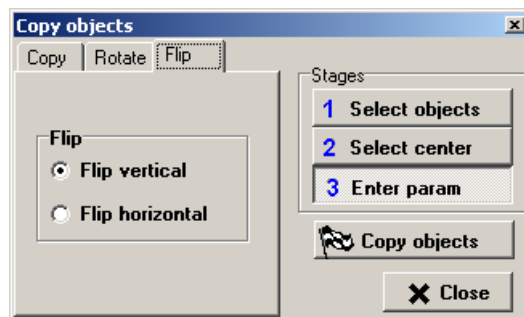

Fig. 43
- **Flip.** This operation represents flip of the selected object with reference to some vertical or horizontal axis. The **Flip** tab includes the following elements (see Fig.43):